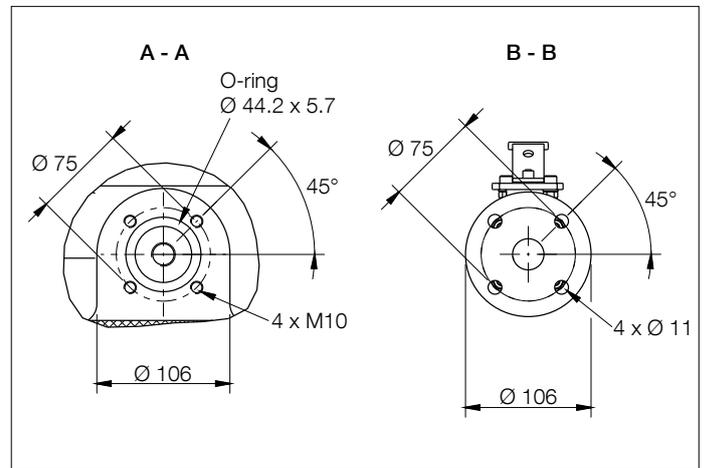

Fig. 46. Sample pipe dimensions.
- Information regarding the flanges, view A-A and view B-B, see Fig. 46.